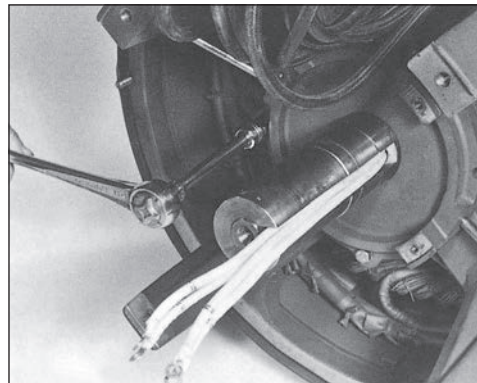
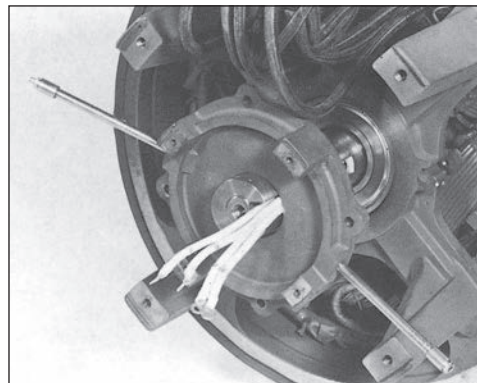

Figure 6-21
Figure 6-22
2. a. For single bearing generators, remove the four capscrews holding the bearing caps to the front end bracket (figure 6-21). Remove the outer cap (figure 6-22).
- b. For two-bearing generators, remove the drive coupling or sheave and key from the shaft extension. Remove the four capscrews holding the bearing lock to the drive end bracket (figure 6-23). Remove the four capscrews holding the bearing caps to the front end bracket (figure 6-21). Remove the outer cap (figure 6-22).